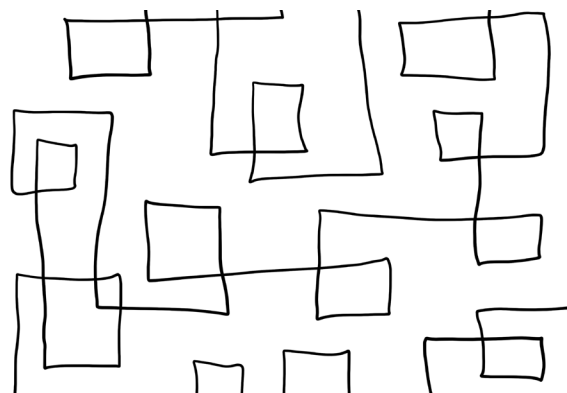

Fig. 23
5. Practice quilting meandering boxes (Fig. 23) across one half of your sandwich using Mode 1. Try other designs that include crisp points, like hearts or leaves.